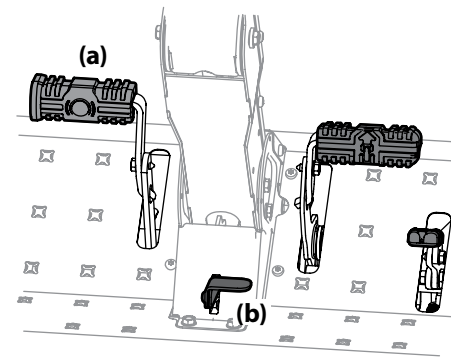

Figure 3-1
3. Engage the parking brake by pressing forward on the brake pedal (a), then press down on the parking brake/cruise control lever (b) and then release the brake pedal (a). Refer to Figure 3-1.